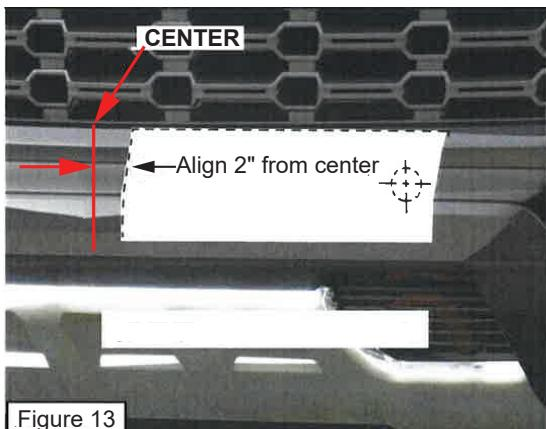

Figure 13
13. Using the provided templates (Items 20 and 21), cut at the dotted lines and place the indicated side at 2 inches from the center of the fascia and the top edge at the lower edge of the grille. Carefully drill a 2-inch hole at each side of the fascia. Carefully clean the hole edges. See Figure 13.